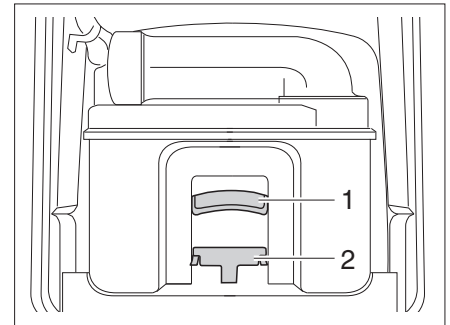

Fig. 135 Thetford cassette
- Pull the holding bracket (Fig. 135,1) upwards and pull out the Thetford cassette (Fig. 135,2).
- Ensure that the cassette is secured by the holding bracket (Fig. 135,1).